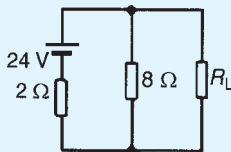

Figure 13.87
2. Determine the value of the load resistance  $R_L$  shown in Fig. 13.87 that gives maximum power dissipation and find the value of the power. [ $R_L = 1.6 \Omega$ ,  $P = 57.6 \text{ W}$ ]